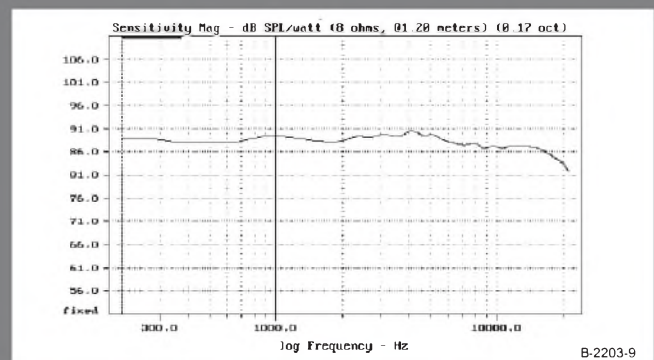

FIGURE 9: Froy (Mk3) average vertical response  $\pm 10^\circ$ .
*Figure 9* plots the average vertical polar response over a ±10° window. This average tracks the on-axis response within 1dB out to 10kHz and is down only 1.6dB at 15kHz.